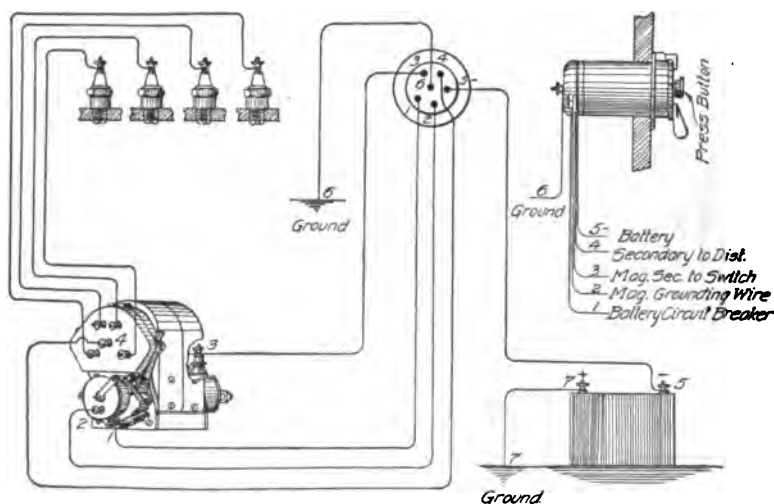

Fig. 81. Wiring Diagram Dual Ignition System
**Dual Ignition System. Bosch Type.** The dual type of ignition system uses one coil and one set of plugs with either the battery or the magneto as the source of current supply, the magneto contact breaker and distributor being common to both. Fig. 81 illustrates the connections of a dual system. Wire Number 1 is in the low-tension circuit and conducts the battery current from the primary winding of the coil to the contact breaker of the magneto. Low-tension wire Number 2 is the grounding wire by which the primary
*Details of Typical Distributor.* Apart from slight variations in detail, the following description of the distributor is typical of all magneto distributors. At its right-hand end, the armature shaft, Fig. 81, carries the steel pinion *P*, which meshes with the bronze gear *Q* having twice the number of teeth. Rigidly mounted in the bronze distributor gear *Q* is a carbon brush *U* carried in the holder *T*. This brush is pressed by its spring against the inner surface of the insulating cover of the distributor *W*, in which are embedded a central contact block *X* and four or six (according to the number of cylinders) contact blocks *YY*, equally spaced about a circle. At their outer ends these contact blocks carry terminals for the attachment of the high-tension cables. As the distributor revolves it makes contact with the central block *X* and all of the blocks *YY* in succession.